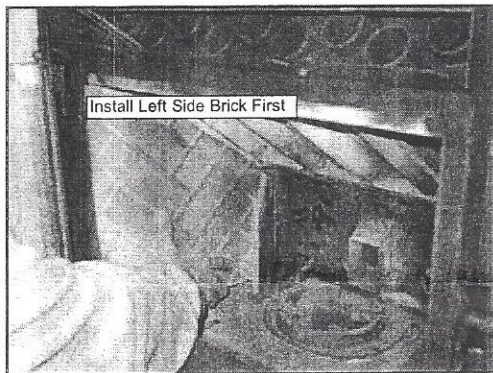

Figure 19
1. The new brick set must be installed in a certain order. Place the left side brick in first. There are no fasteners for the left brick, it is held in place by pressure. **Figure 19.**